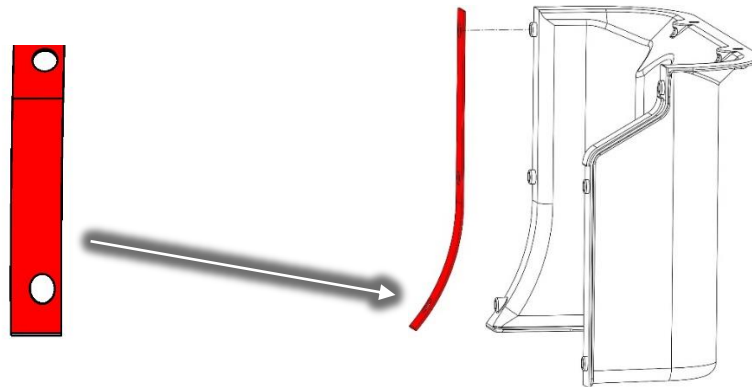

Figure 5 – Capacitor Cover Right Side Foam Installation
3. Remove a small portion of the adhesive backing at the end and install the shorter Capacitor Side Cover Sealing Foam Bottom Right. The bottom hole is slightly oval shaped. Refer to Figure 5.